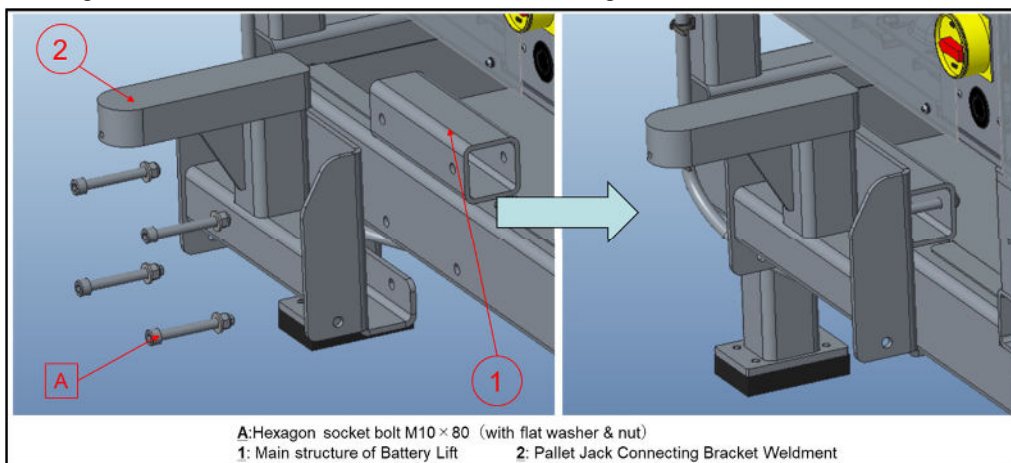

Fig.7.1.4 Bracket Weldment Installation
a) As shown in Figure 7.1.4, assemble Part 2 with Part 1 through bolts and nuts A.